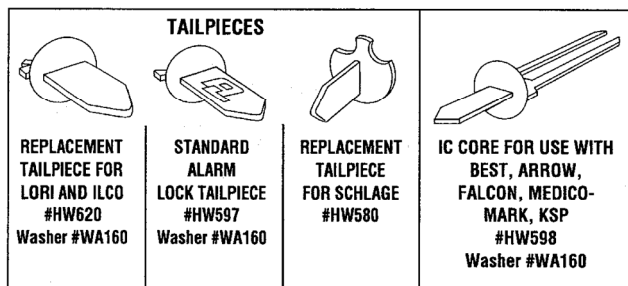
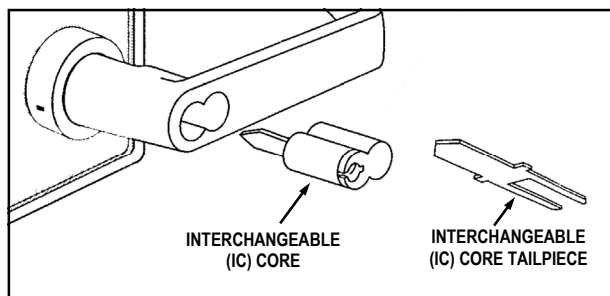

FIG. 19: STANDARD AND IC CORE TAILPIECE VARIETIES
FIG. 20: INSTALL INTERCHANGEABLE (IC) CORE
3. Insert IC core Tailpiece (shown in Fig. 19 and Fig. 20) into Primary side core. **Note:** *Tailpieces are used in Primary side cores only.* Use ONLY an Alarm Lock IC core Tailpiece.